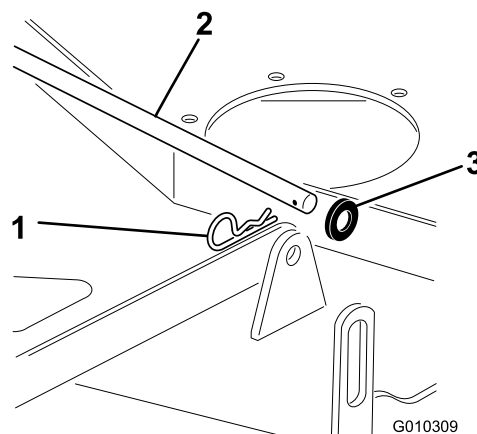

Figure 73
1. Remove the hair pin cotter and washer securing the long, link bar to the frame and deck; remove the link bar (Figure 73).
9. Secure the link bar with the hair pin cotters and washers removed previously (Figure 73).